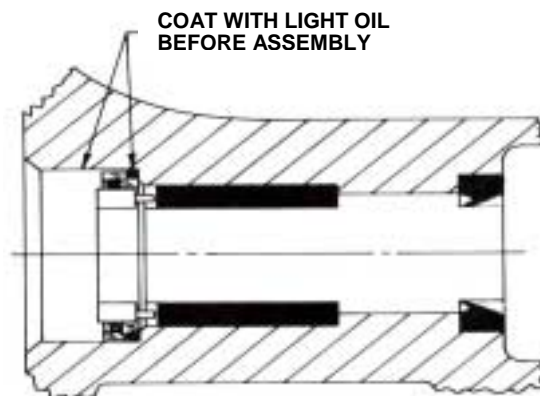

FIGURE 8
5. Install seal seat in seal housing bore, **Refer to Figure 8.** Make sure drive pins are located in slots in bracket bushing.